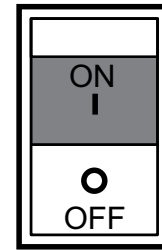

Figure 20. Main Circuit Breaker (ON)
- Place main circuit breaker (Figure 20) in the **ON** position.